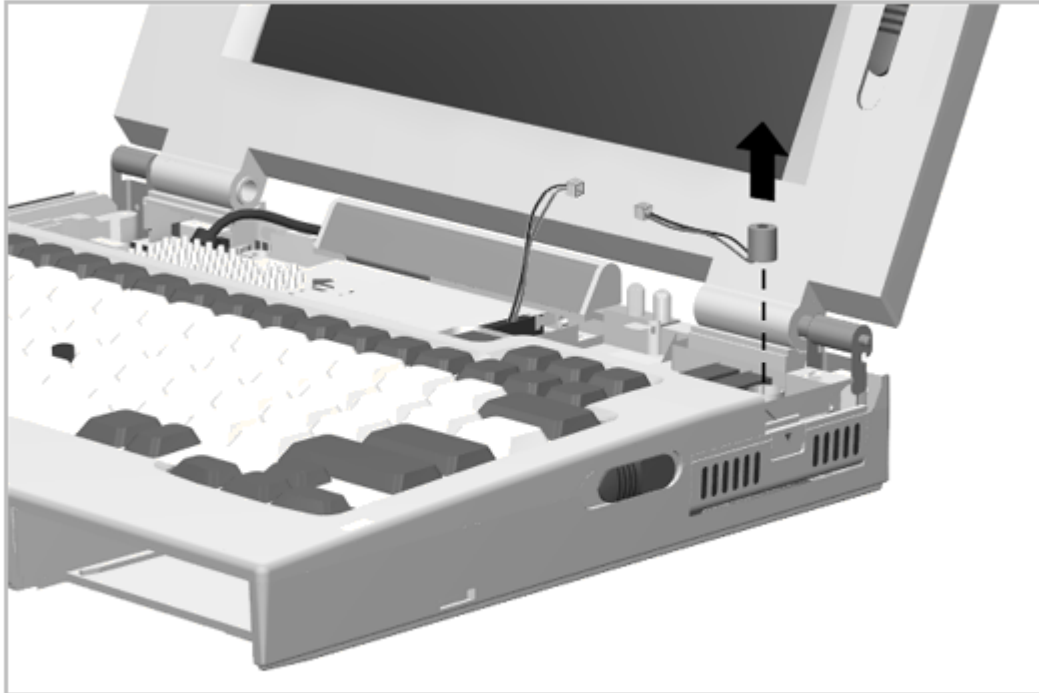

Figure 5-27. Removing the Microphone
2. Disconnect the microphone cable (Figure 5-27).
3. Lift the microphone and its boot out of the computer (Figure 5-27).